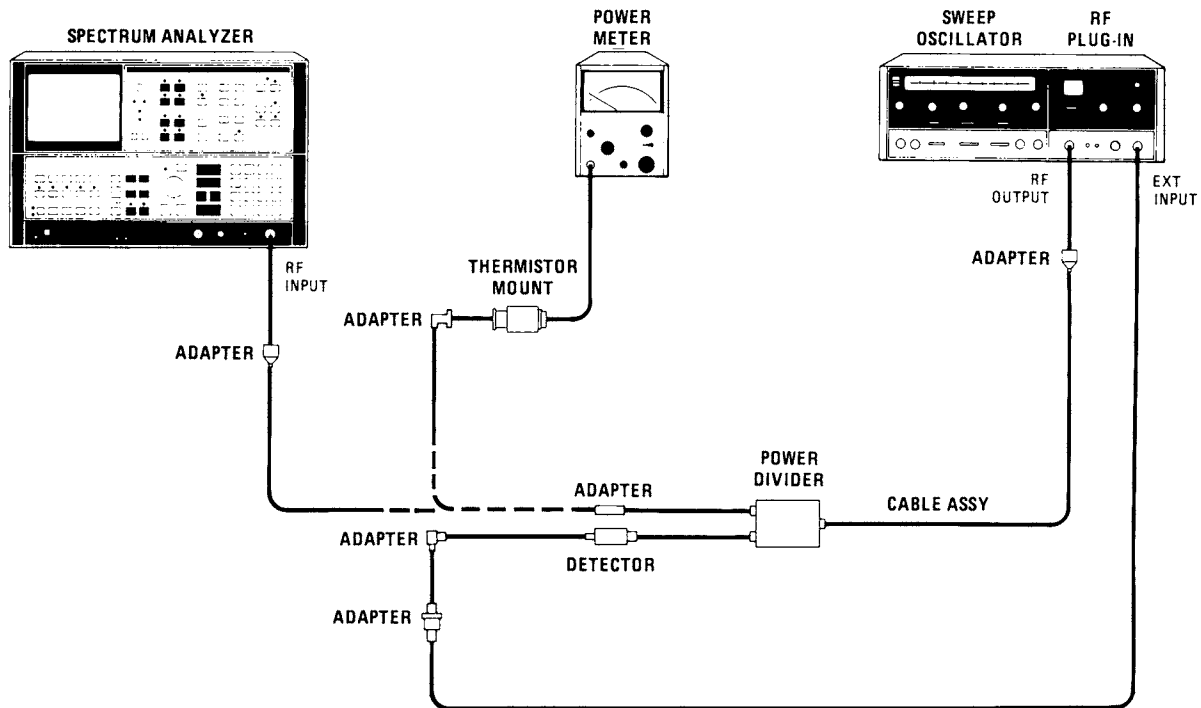

Figure 4-25. Frequency Response Test Setup (18 to 22 GHz)
60. Connect output of power divider to thermistor mount as shown in Figure 4-25.
63. Flexing the cable assembly as little as possible, connect the power divider to the analyzer input as indicated in Figure 4-25.